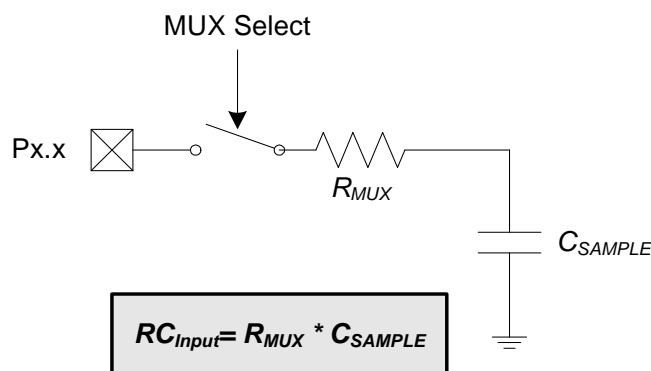

Figure 6.5. ADC0 Equivalent Input Circuit
Figure 6.5 shows the equivalent ADC0 input circuit. The required ADC0 settling time for a given settling accuracy (SA) may be approximated by Equation 6.1. When measuring the Temperature Sensor output, use the tracking time specified in Table 5.11 on page 52. When measuring V_{DD} with respect to GND, R_{TOTAL} reduces to R_{MUX} . See Table 5.10 for ADC0 minimum settling time requirements as well as the mux impedance and sampling capacitor values.